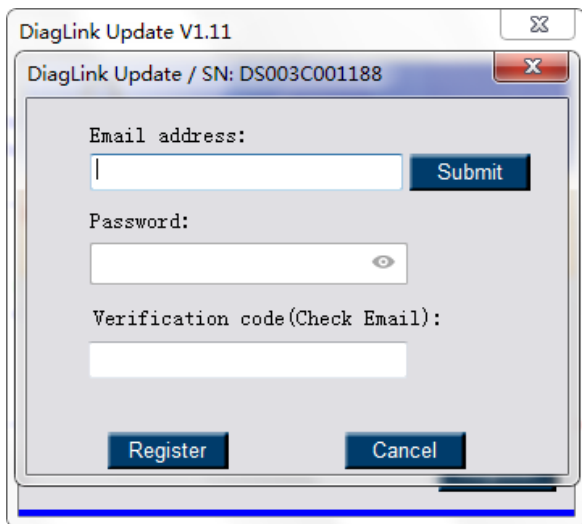

Figure 10.3
- 6) Enter your email address on the Product Registration box and click **Submit** (Figure 10.3).